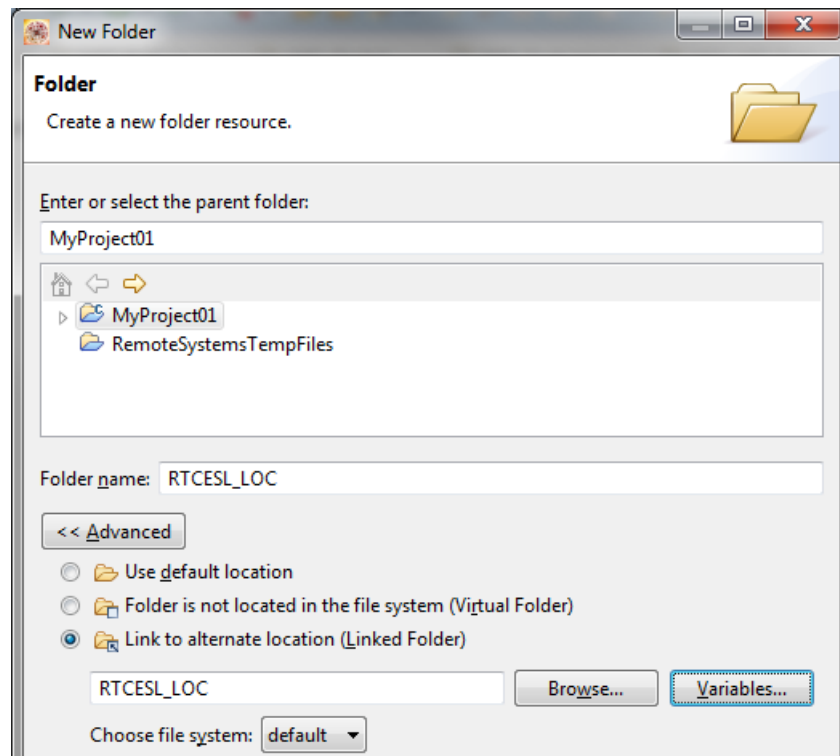

Figure 1-8. Folder link
4. Click Variables..., select the RTCESL_LOC variable in the dialog, click OK, and/or type the variable name into the box. See Figure 1-8.